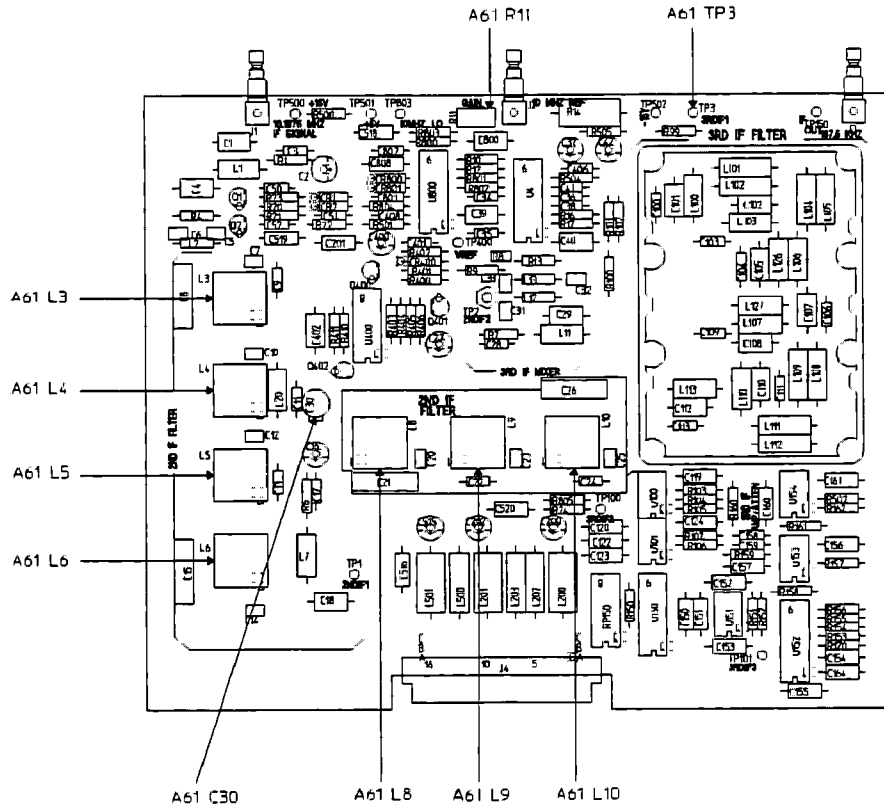

Figure 5-11. A61 IF Component Locator
4. Adjust A61 L3, L4, L5, L6, L8, L9, and L10 from the circuit side of the board (see figure 5-11 for component location) for a maximum Man readout (approximately -25 dBm). Continue adjusting until no further improvement can be made.